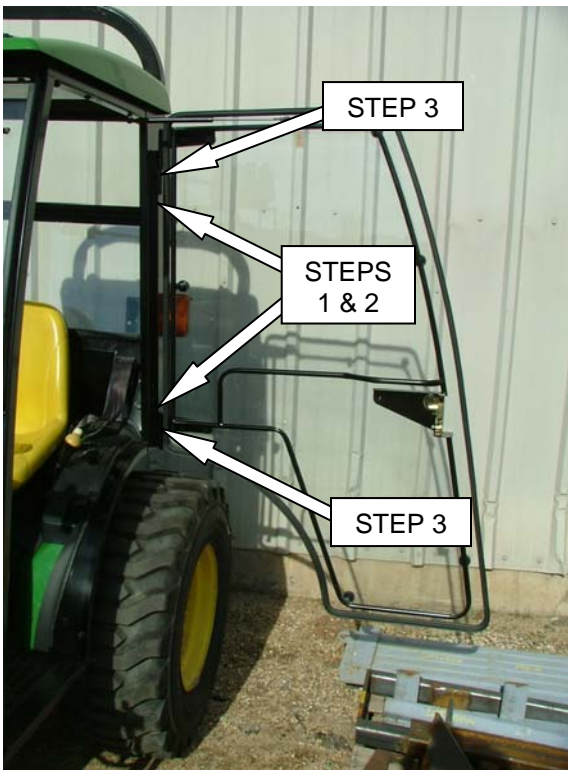

Figure 2
1. Remove knock-outs from rear cab side panel (**Figure 2**).
2. Secure hinge mount bracket (3 LH) (4 RH) onto rear cab side panel and secure (**Figure 2**):
- (8) 5/16 x 3/4" long, truss button torx head bolts (8)
3. Place brass washer (10) onto each hinge pin location (**Figure 2**).